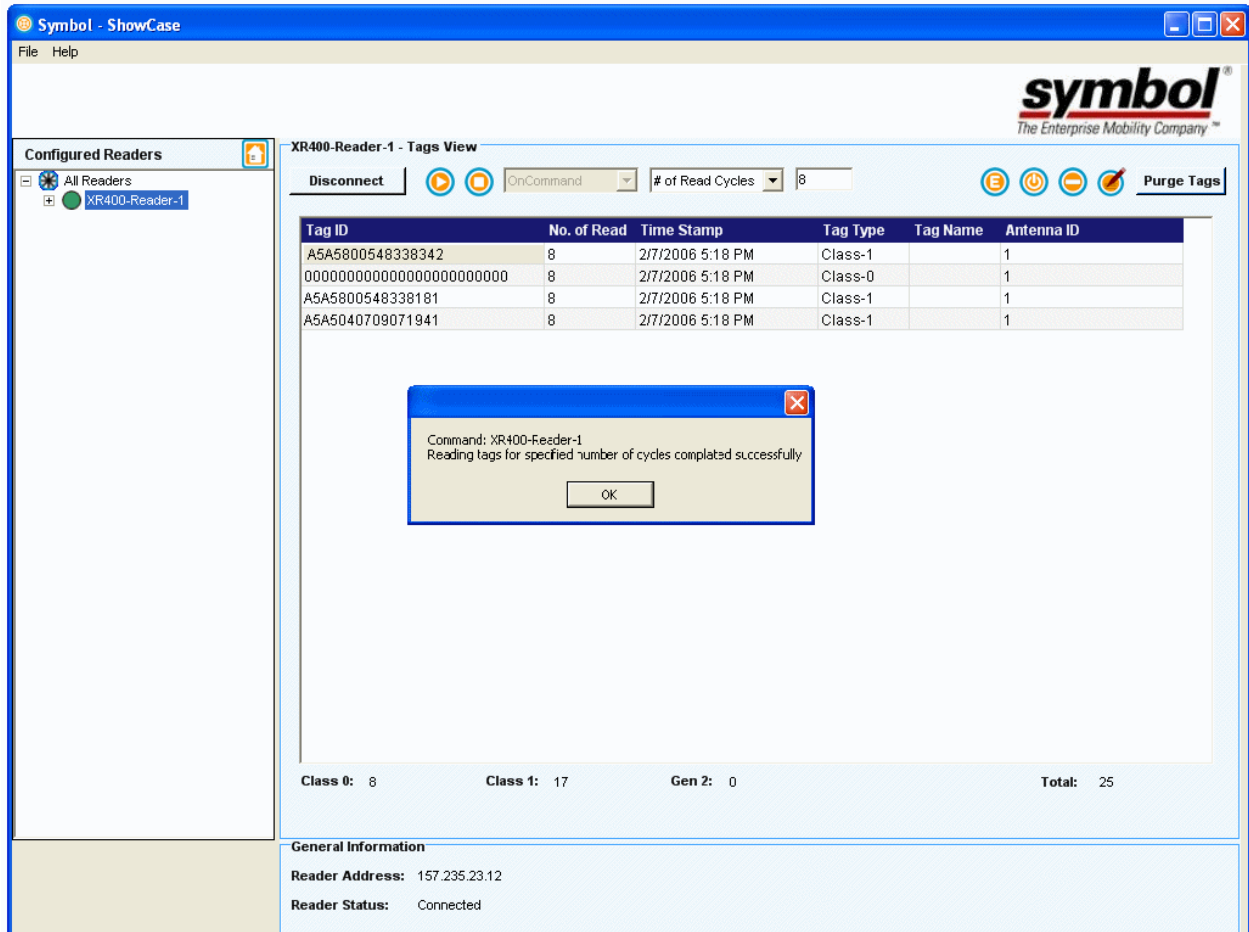

Figure 4-4. XR400-Reader-1 Tag Data Screen
1. Click the start icon to read tags, the *XR400-Reader-1 Tag Data* window appears (see Figure 4-4).
1. From the *Read Successfully Completed* window (see Figure 4-4 on page 4-7), click the *Export* icon. The *Select/Enter File Name to Export Data* window appears.